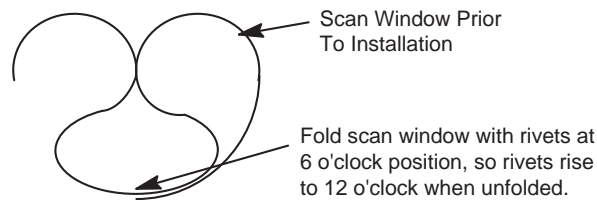
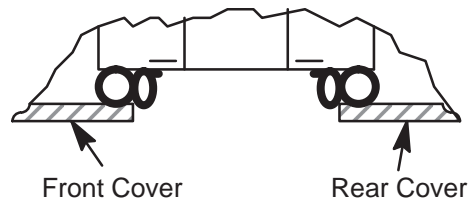

Figure 4-2 Install Scan Window
Figure 4-3 Scan Window Nested Between Front and Rear Cover
- 1.) Shape the scan window as shown in Figure 4-2, and nest the scan window at the bottom of the opening between the front and rear covers, (Figure 4-3) with the rivets in the 6 o'clock position. Remember the rivets must be in the 12 o'clock position when the mylar window is fully installed.